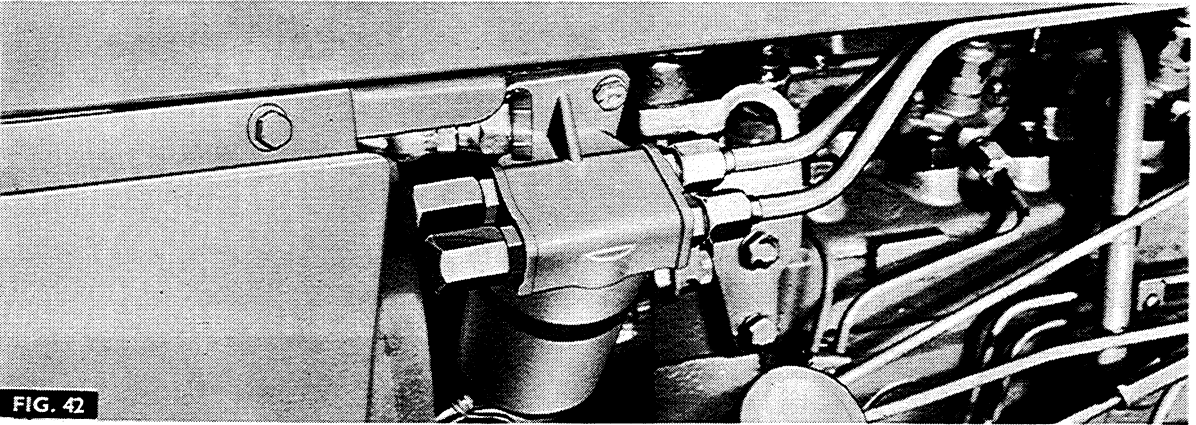

FIG. 42
2. Fig. 42. Remove the two pipes from the front of the filter and fit the two MF 260-4/4 caps, as shown.